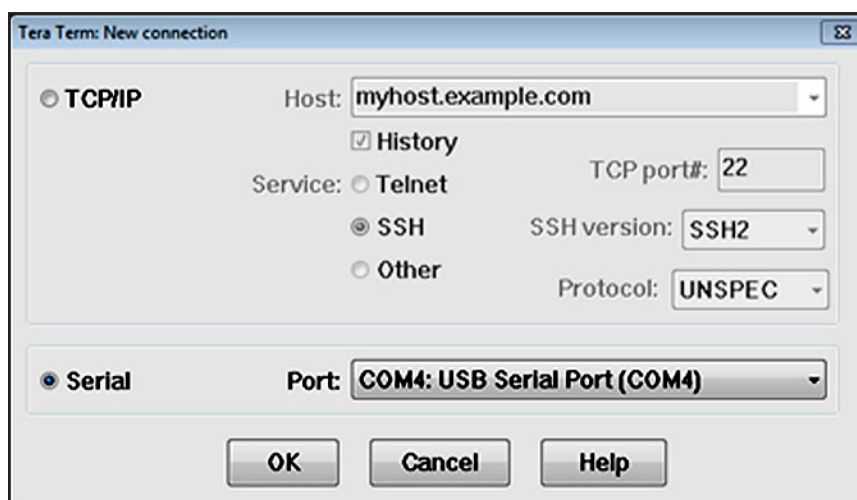

Figure 4: Tera Term Com Port Selection
5. Select the appropriate *COM Port*, as shown in *Figure 4* below, then click **OK**.